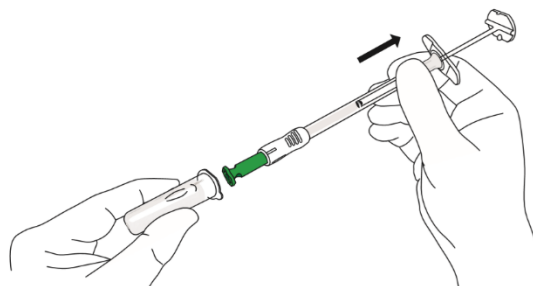

Figure 12
- Pull the needle straight out from the needle cap **without twisting or turning (Figure 12)**.